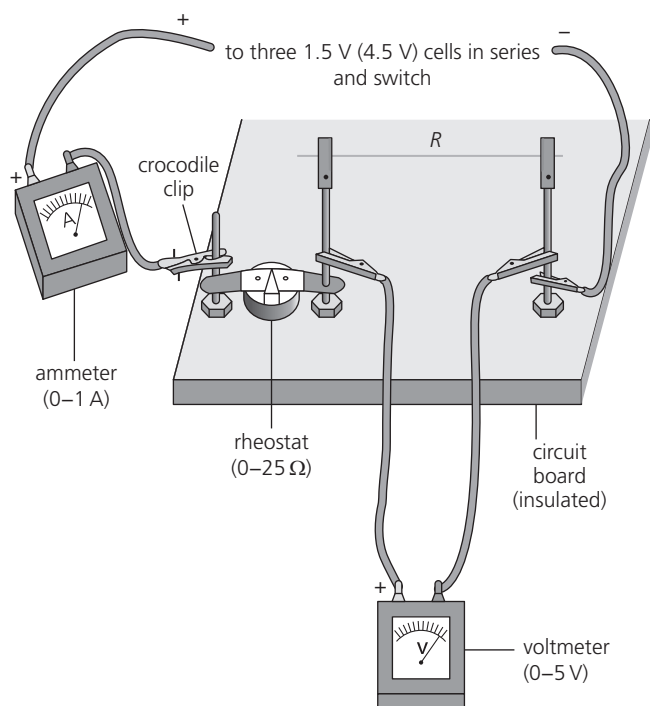

Figure 1
- 1 Set up the circuit shown in Figure 1 where the unknown resistance,  $R$ , is a 1 m length of constantan wire held above the circuit board in two vertical clamps.